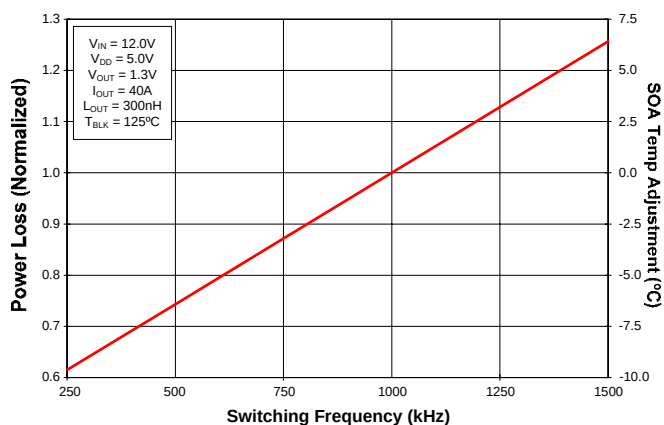

Figure 6 Normalized Power Loss vs. Switching Frequency
| (Figure 6) | Normalized power loss for switch frequency ≈ 0.87 |
- (Figure 6) SOA temperature adjustment for switch frequency $\approx -3.5^{\circ}\text{C}$